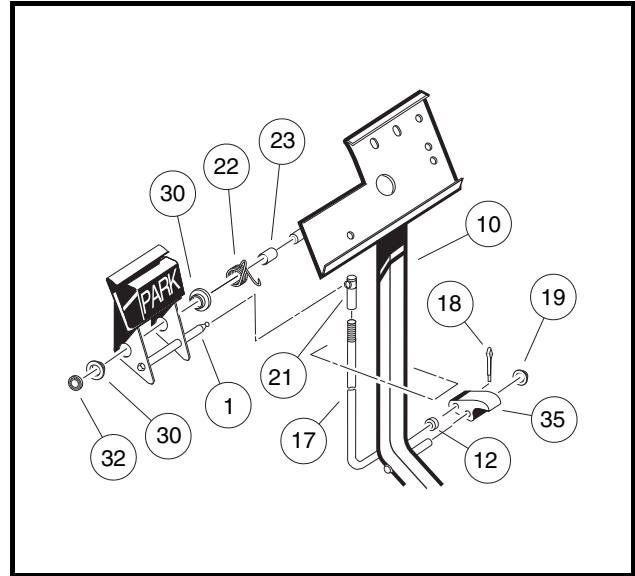

Figure 5-4 Park Brake Assembly
NOTE: *New push nuts (19) and (32) must be used when reassembling the park brake (Figure 5-4, Page 5-4).*
- 3.2. To remove the park brake pedal (1), remove the push retainer nut (32), disconnect the torsion spring (22) (**Figure 5-4, Page 5-4**) and slide the pedal off of the shaft. **See preceding NOTE.**
1. From the bottom side of the floorboard, insert the park brake rod (17) through the brake pedal assembly opening as shown (**Figure 5-4, Page 5-4**). Then install the park brake pawl (35) onto the shaft on the brake pedal assembly (10) and also insert the park brake rod (17) into the park brake pawl.
2. Install the push nut (19) on to the park brake pawl shaft.
3. Install the spacer (23) and torsion spring (22) on the park brake pedal shaft on the brake pedal assembly.
4. Install the two bushings (30) in the park brake pedal and position the park brake pedal on the shaft on the brake pedal assembly weldment (10) (**Figure 5-4, Page 5-4**). Then attach the ends of the torsion spring to the park brake pedal and to the brake pedal weldment as shown (**Figure 5-5, Page 5-6**).
5. Install the push nut (32) on the park brake pedal shaft (**Figure 5-4, Page 5-4**).
6. Connect park brake rod (17) with ball joint (21) to the ball stud on the park brake pedal assembly (**Figure 5-4, Page 5-4**).